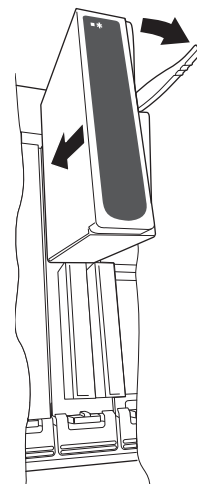

Figure 2.2.3b
1. Pull the module retaining lever forwards into the unlocked position as shown in figure 2.2.3b.